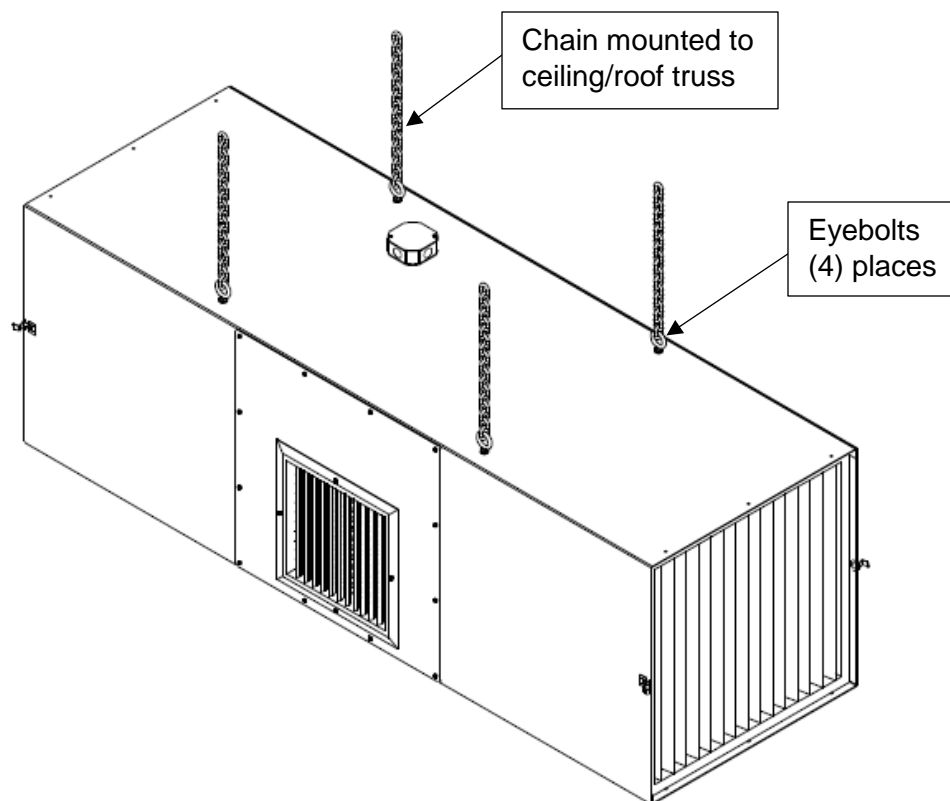

FIG. 1
3. Once eyebolts are secured, the MXT3500 is ready to be hung in an appropriate location (See **FIG. 1**).
2. Lift unit to access the threaded holes on the bottom of the cabinet. **NOTE:** The cabinet can be lifted by installing eyebolts on the top. Eyebolts are not supplied by Micro Air (See **FIG. 1**).
2. Install wall mount. The brackets have (8) 7/16" holes to mount to wall. The holes are spaced 16" apart horizontally by 24" vertically. **NOTE:** Anchors are not supplied by Micro Air. Minimum embedment depth for a 3/8" dia. wedge anchor is 1-1/2".
3. Lift unit to access the threaded holes on the bottom of the cabinet. **NOTE:** The cabinet can be lifted by installing eyebolts on the top. Eyebolts are not supplied by Micro Air (See **FIG. 1**).
2. Install floor stand. The stand has (4) 5/8" holes to mount to the floor. The holes are spaced 22" apart. **NOTE:** Anchors are not supplied by Micro Air. Minimum embedment depth for a 1/2" dia. wedge anchor is 2-1/2".